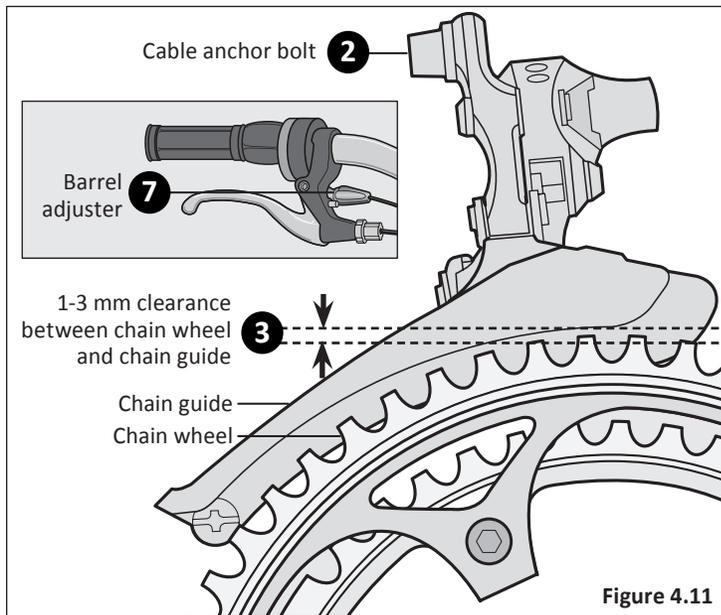

Figure 4.11
- 2 Disconnect the front derailleur cable from the cable anchor bolt. **Figure 4.11**